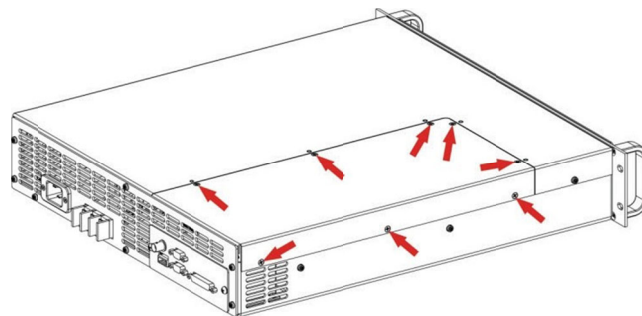
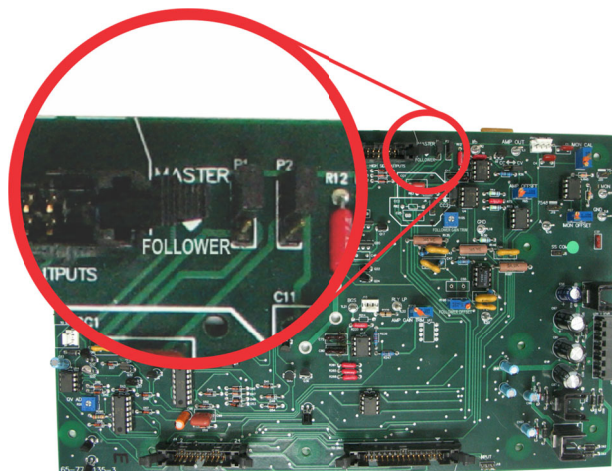

Figure B.2.9 – Access Panel Screw Locations
Figure B.2.10 – Master/Follower Setting
1. On the Follower amplifier, locate the Access Panel as shown in **Figure B.2.9**. Make sure that all 8 screws are accessible. Remove the unit from its rack, if necessary.
2. Using a #2 Phillips screwdriver, remove the eight (8) screws located on the top and side of the amplifier.
4. On the main board, locate the jumpers P1 and P2 (Master/Follower). For Follower operation, set both jumpers to the DOWN position (lower two pins shorted). See **Figure B.2.10** for jumper locations.